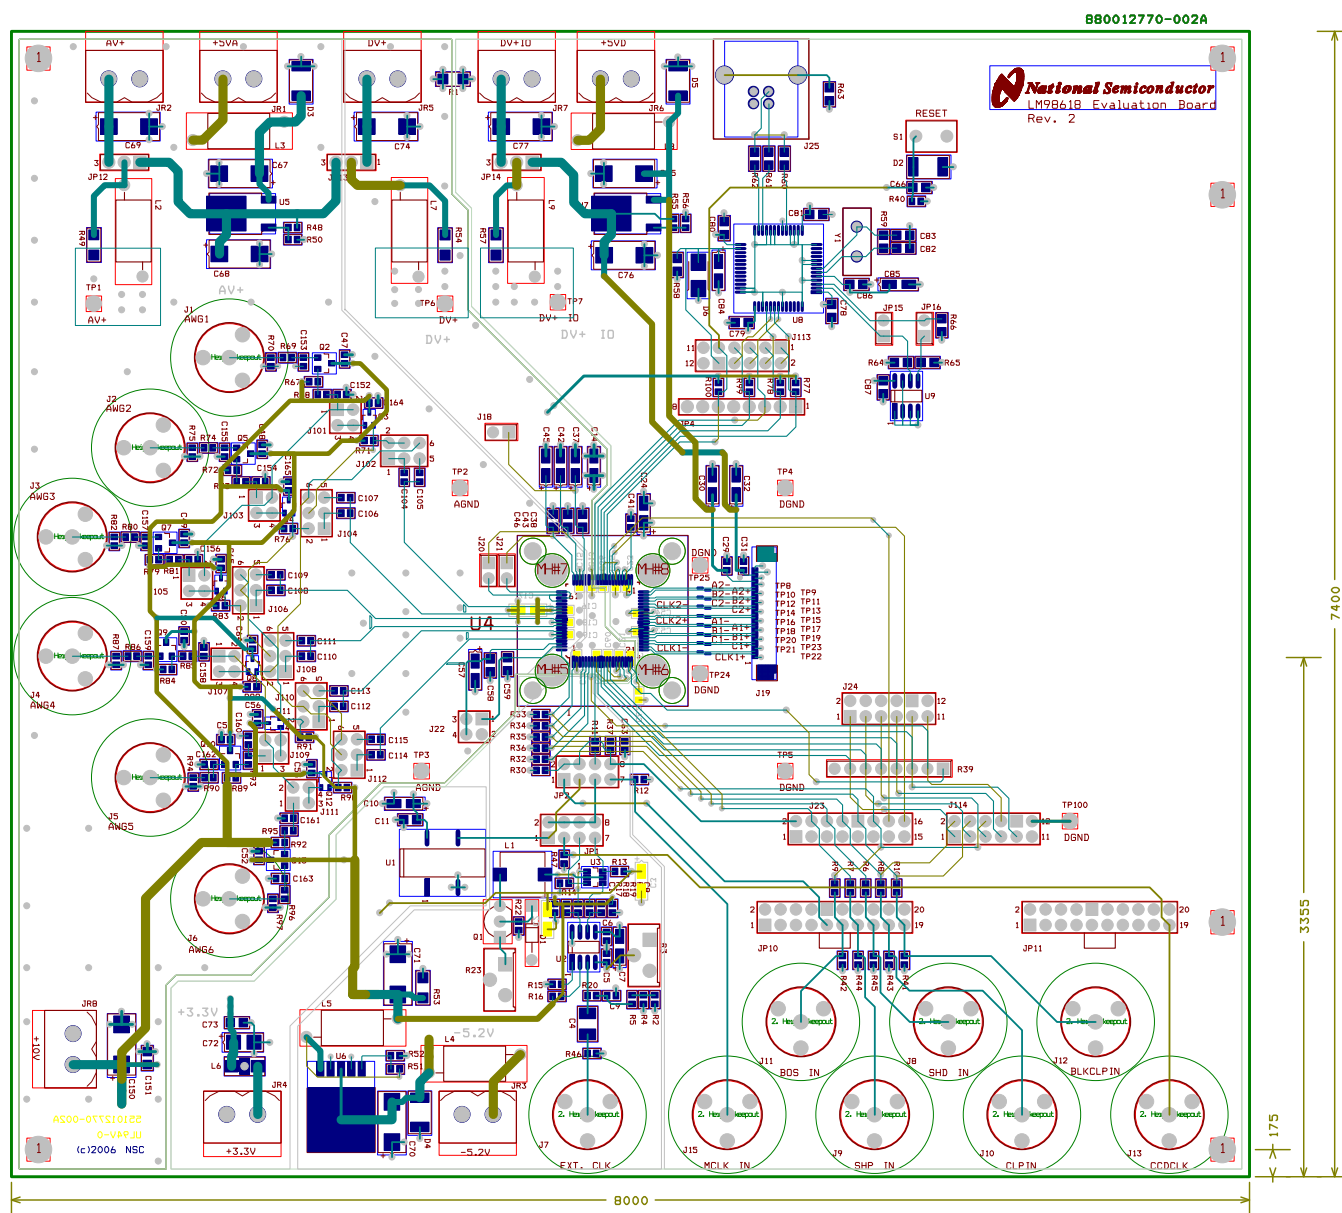

Figure 43. LM98620 Layout Example
3. Use a multi-layer boards as shown in Figure 43 to ease routing, and to provide a low inductance ground plane.